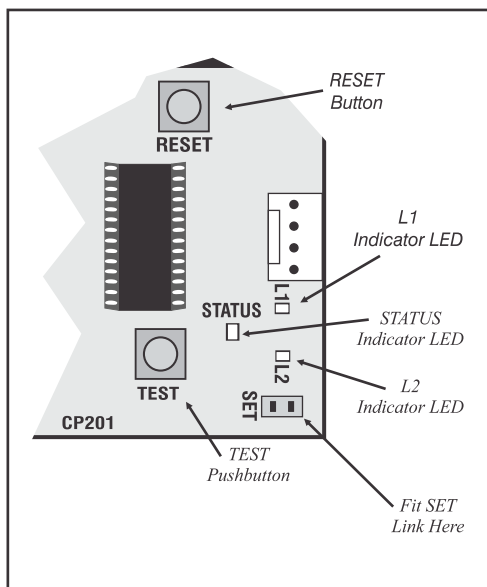

Figure 23 Controller SET Link & Programming LED's
5. Fit the SET link jumper to the SET pins shown in Figure 23.
7. Press and hold the TEST pushbutton (Figure 23) down, for one flash of L1, and then release. L2 will go off, and L1 will now be flashing once per second.
- 18. **Fit the SET link** jumper to the SET pins as shown in Figure 23.